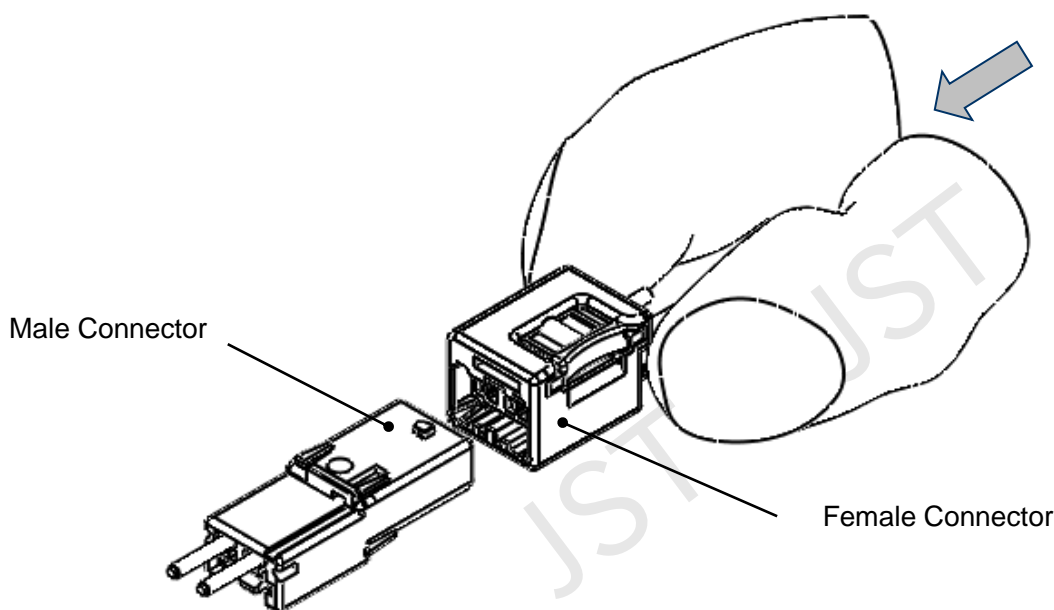
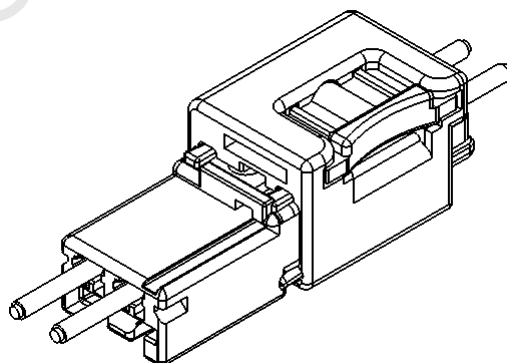

Fig. 25
Fig. 26
- ② Before mating the male and female connector, make sure that there are no foreign objects in the male housing assembly. This could cause damage to the male pins or jam the male and the female assemblies together.
- ③ Orientate the female connector to the proper direction and mate with the male connector. There is no need to release the slider for mating (Fig. 25).
- ④ When mating the male and female connector, the operator will hear and feel a click after the mating is complete.
- ⑤ Female connector must be completely mated to male housing assembly as shown in Fig. 26.